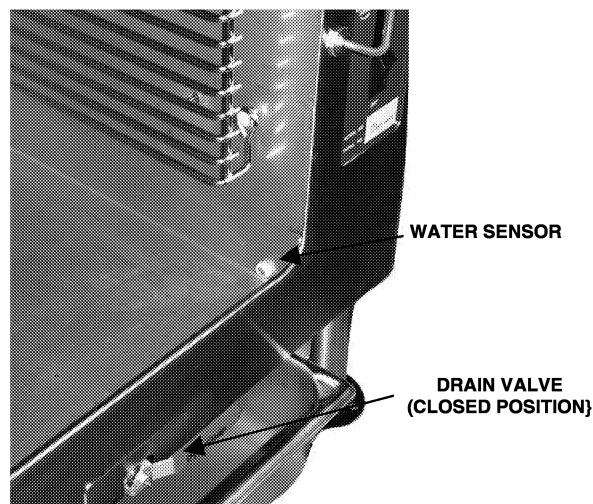

Figure 2-2 Compartment Water Fill
- All food debris should be wiped clean and the drain opening and the water level screw shall be inspected and cleaned of any residue or debris (See Figure 2-2).